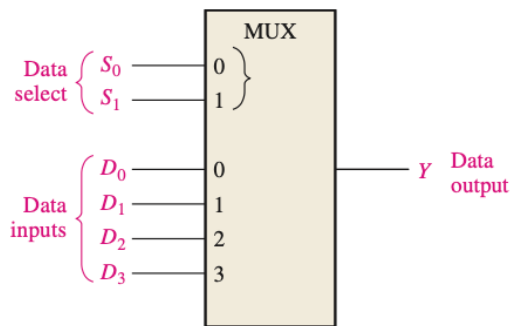

Figure 1 Logic symbol for a 1-of-4 data selector/multiplexer.
A **multiplexer (MUX)** is a device that allows digital information from several sources to be routed onto a single line for transmission over that line to a common destination. The basic multiplexer has several data-input lines and a single output line. It also has data-select inputs, which permit digital data on any one of the inputs to be switched to the output line. Multiplexers are also known as data selectors. A logic symbol for a 4-input multiplexer (MUX) is shown in Figure 1. Notice that there are two data-select lines because with two select bits, any one of the four data-input lines can be selected.
In Figure 1, a 2-bit code on the data-select (S) inputs will allow the data on the selected data input to pass through to the data output. If a binary 0 ($S_1 = 0$ and $S_0 = 0$) is applied to the data-select lines, the data on input D_0 appear on the data-output line. If a binary 1 ($S_1 = 0$ and $S_0 = 1$) is applied to the data-select lines, the data on input D_1 appear on the data output. If a binary 2 ($S_1 = 1$ and $S_0 = 0$) is applied, the data on D_2 appear on the output. If a binary 3 ($S_1 = 1$ and $S_0 = 1$) is applied, the data on D_3 are switched to the output line. A summary of this operation is given in Table 1.